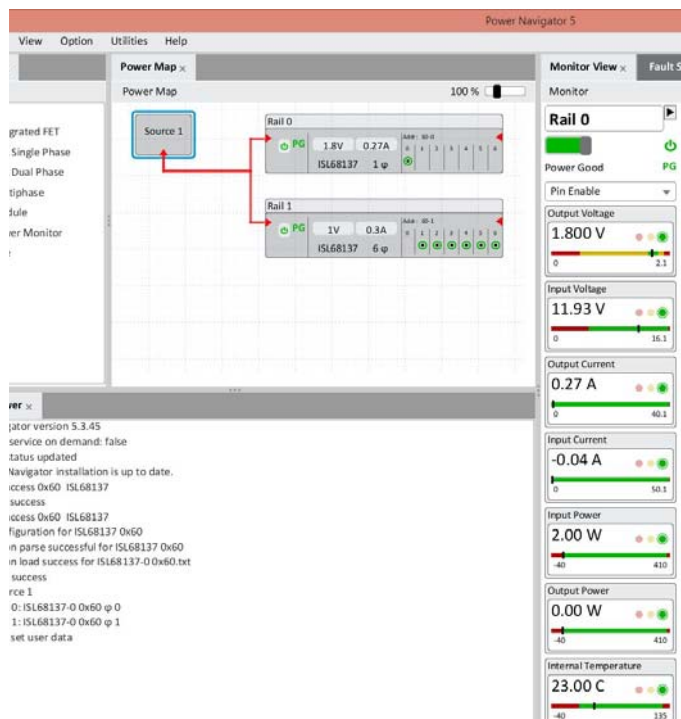

FIGURE 7. POWER MAP
9. Use SWE1 and SWE2 to enable desired output (Figure 7).